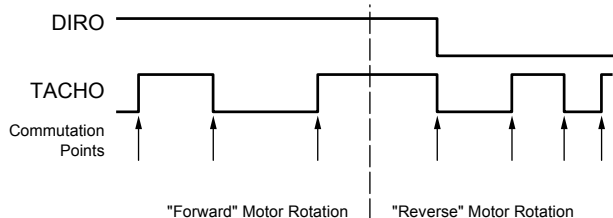

Figure 1. Direction Indication Outputs
**TACHO and DIRO** These outputs provide speed and direction information based on the HE inputs from the motor. As shown in figure 1, at each commutation point, the TACHO output changes state independent of motor direction. The DIRO output is updated at each commutation point to show the motor direction. When the motor is rotating in the “forward” or positive direction, DIRO will be high. When rotation is in the “reverse” or negative direction, DIRO will be low. The actual direction of rotation is determined from the sequence of the three Hall inputs,  $H_x$ . Forward is when the sequence follows table 3 top-to-bottom and reverse when the sequence follows table 3 bottom-to-top.